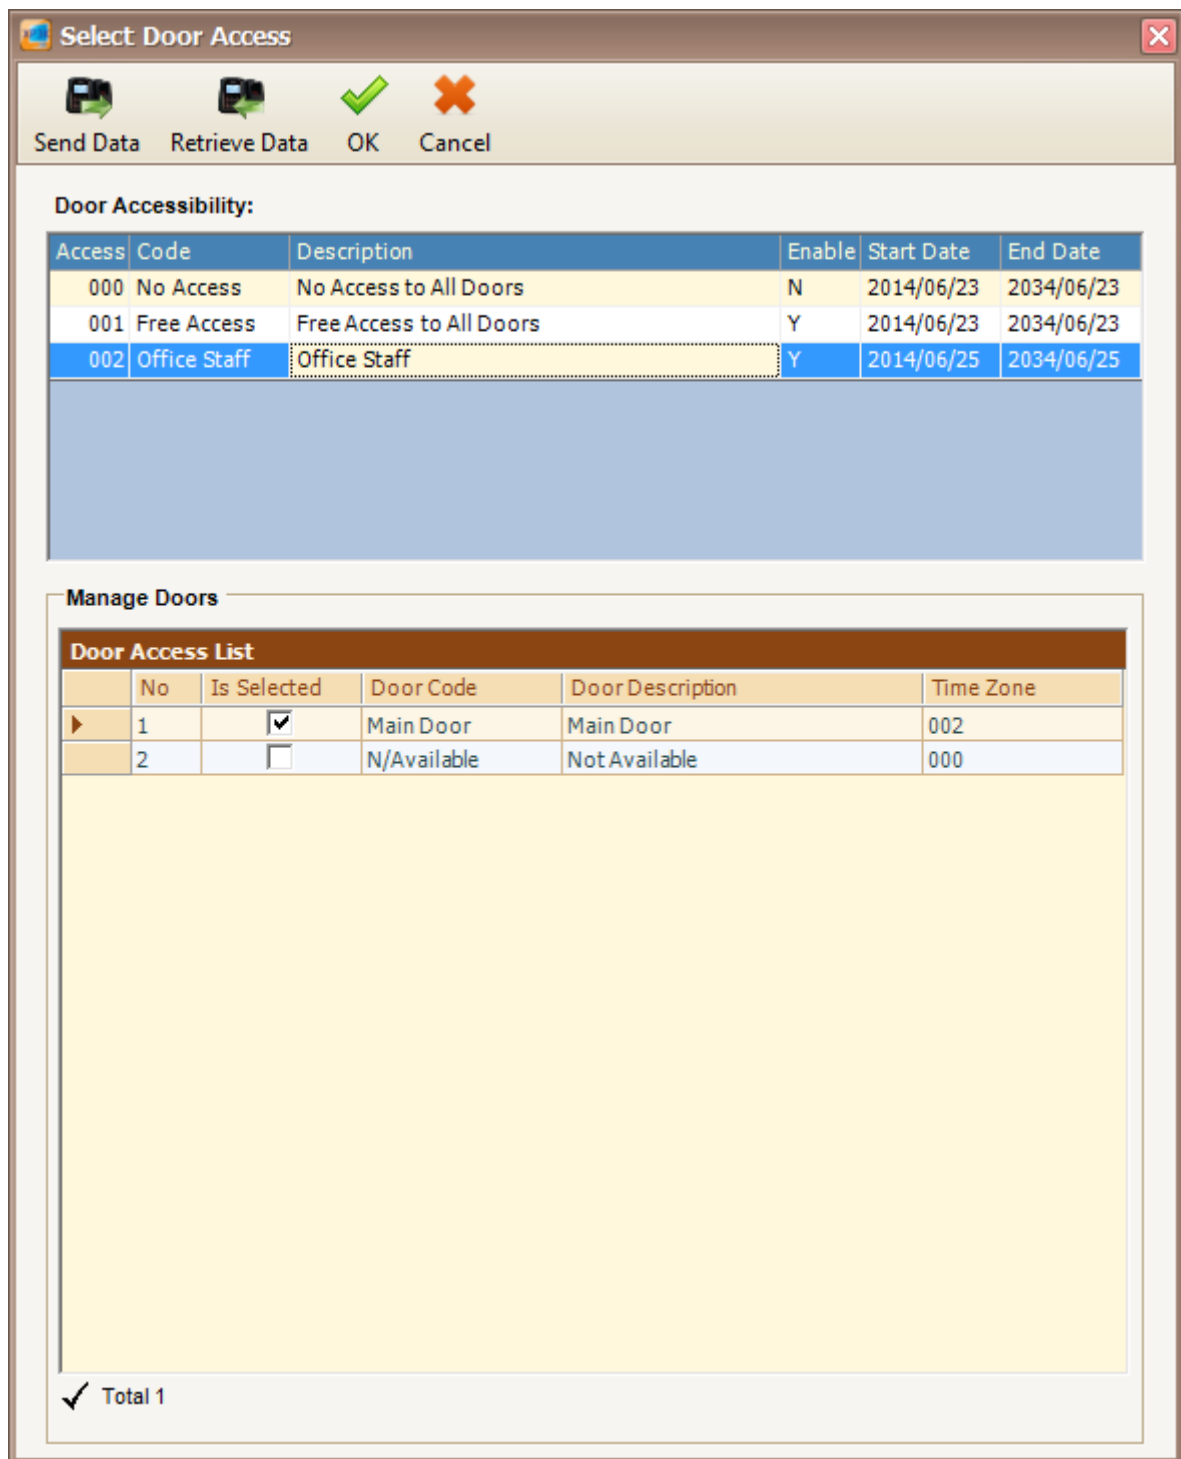

Figure 201 - Select Door Access
8. The following screen will be shown (Refer **Figure 201**).